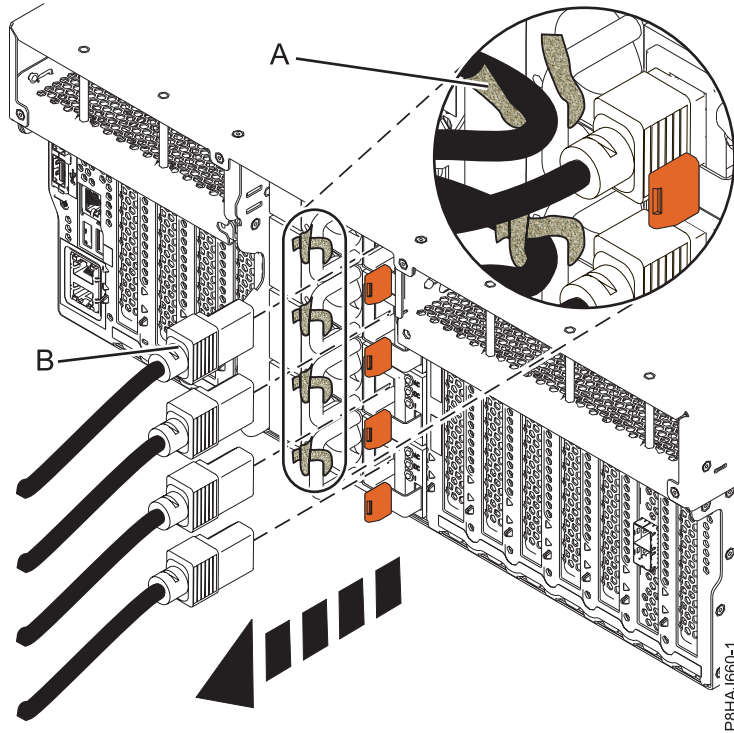
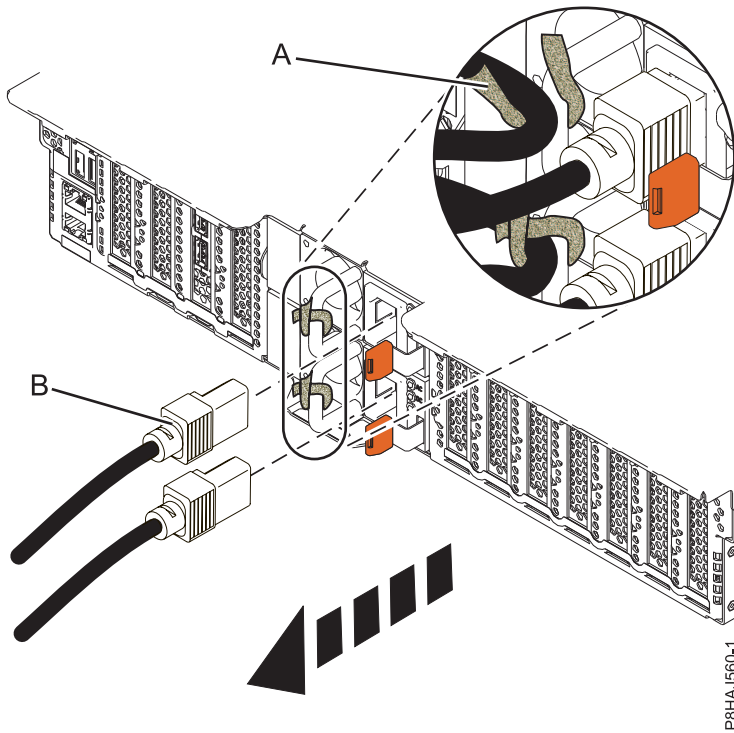
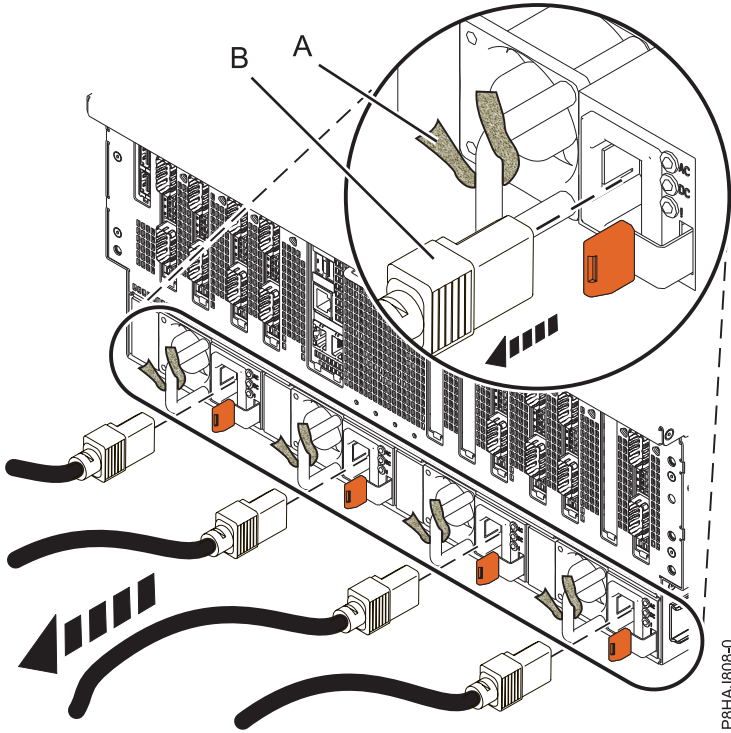

Figure 51. Removing the power cords from an 8247-42L, 8286-41A, or 8286-42A system
Figure 52. Removing the power cords from an 5148-21L, 5148-22L, 8247-21L, 8247-22L, 8284-21A, or 8284-22A system
Figure 53. Removing the power cords from an 8408-44E or 8408-E8E system
3. Disconnect the power cords (**B**) from the system unit. See Figure 51 on page 69, Figure 52 on page 69, or Figure 53 on page 70 or depending on the type of your system.